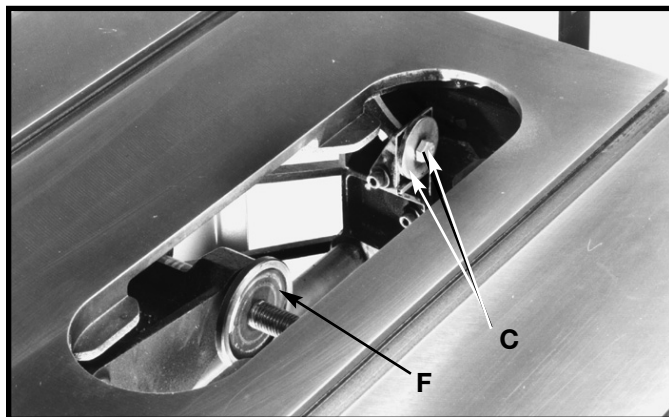

Fig. 16
3. Using a 12 mm wrench, remove hex head screw and large washer (C) Fig. 16 from the inside splitter mounting bracket.
4. Remove the outer arbor flange and leave the inner arbor flange (F) Fig. 16 on the arbor.